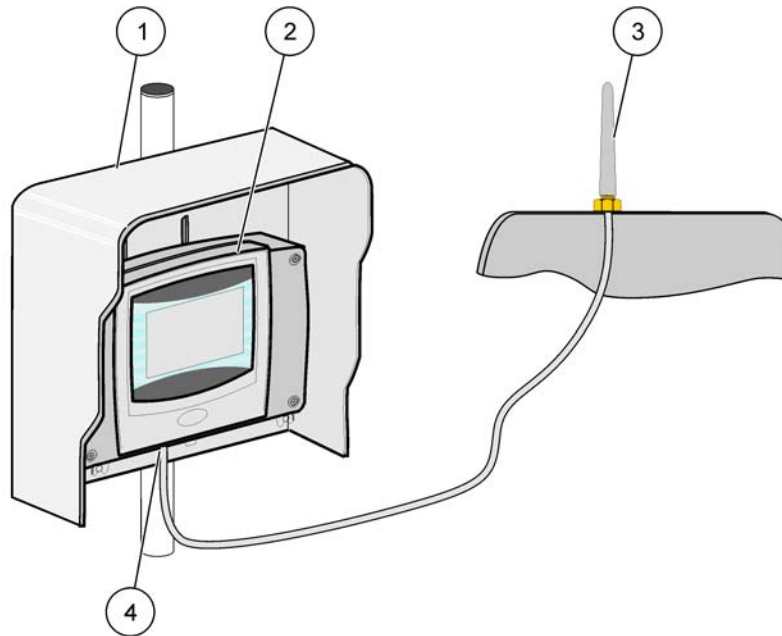

Figure 36 Connect the external GSM antenna
4. Attach the antenna cable to the GSM antenna connection at the display module (Figure 7). Use the supplied adapter to connect the antenna connector and the GSM antenna connection (Figure 36).